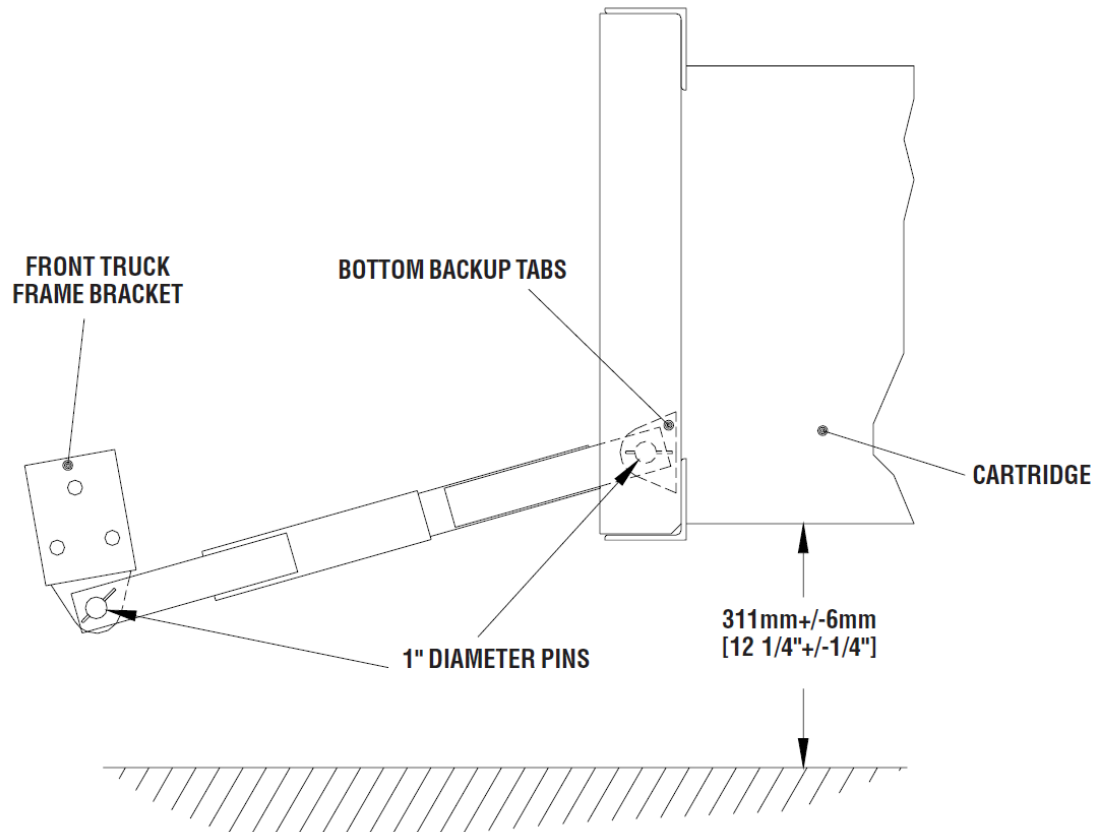

Figure 7
11. Attach the Standard Struts (P.N. 3522560-0000) to the bottom backup tabs. Attach the Front Truck Frame Brackets (P.N. 2725451-0000) to the other end of the struts as shown in Figure 7.